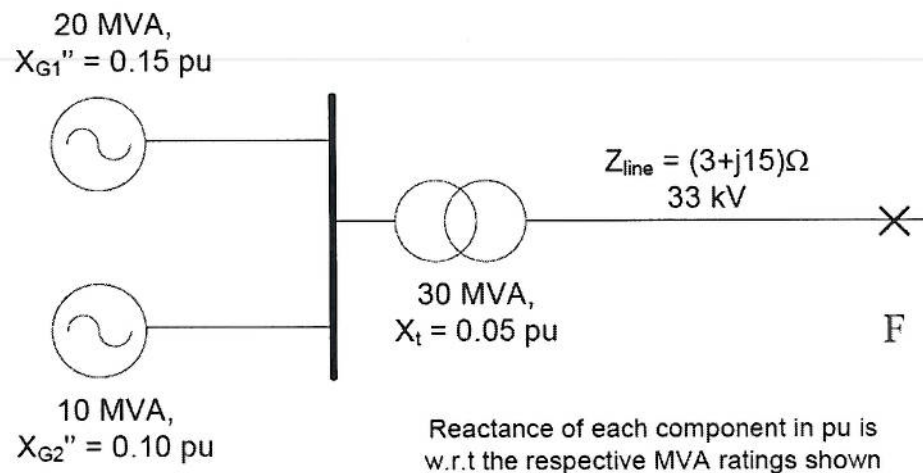

Figure 4.1: Two synchronous generators connected to a transmission line through a transformer
- c) A three-phase fault occurs at point F at the far end of the line in the system shown in Figure 4.1. Considering 30 MVA as the system base calculate the fault current in Amperes. Assume the pre-fault voltages to be 1.0 pu and neglect pre-fault currents.